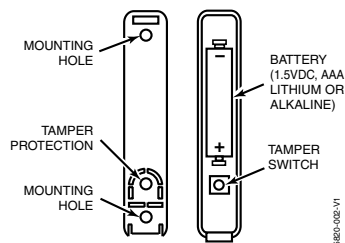

Figure 2. 5820L Mounting/Battery Location
Front and back-case tamper is provided using the same switch. The front-case tamper is always enabled. Adding the third screw as shown in Figure 2 enables the back-case tamper.
4. Install **mounting** screws in the two outside mounting holes as shown in Figure 2 using a #1 Phillips.
2. **Observe correct polarity and insert the battery** provided into the battery retainer clips as shown in Figure 2.